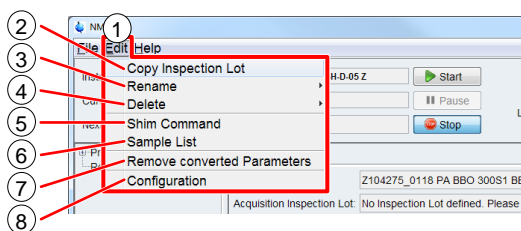

Figure 5-10: Edit menu
Edit Menu (1) shown in Figure 5-10 provides functionalities to
- copy an Inspection Lot (2)
- rename an Inspection Lot (3)
- delete an Inspection Lot (4)
- rename a report (3)
- delete a report (4)
- rename a plugin (3)
- delete a probe (4)
- show and edit the Shim Command list (5)
- show and edit the Sample List (6)
- remove converted experiment parameters from *NMRPT* (7)
On the **Edit** menu shown in Figure 5-10 (1), click **Copy Inspection Lot** (2) to copy an Inspection Lot including its experiment specifications to a new one.